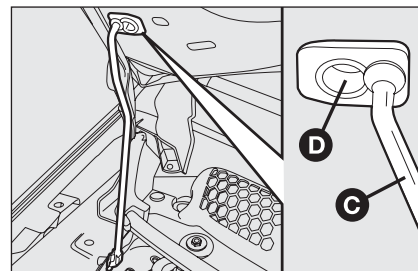

fig. 98
- ☐ lift the bonnet and at the same time release the rod **C-fig. 98** from the catch, then fit the rod end into the bonnet recess **D**.
- ☐ hold the bonnet up with one hand and with the other remove rod **C-fig. 98** from recess **D** and fit it back into its catch;